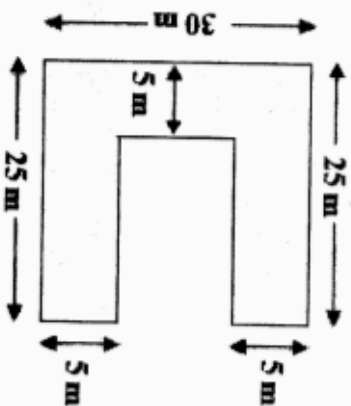

Figure 4
6. Calculate the moment of Inertia of section about the centroidal axis as shown in Figure 4.